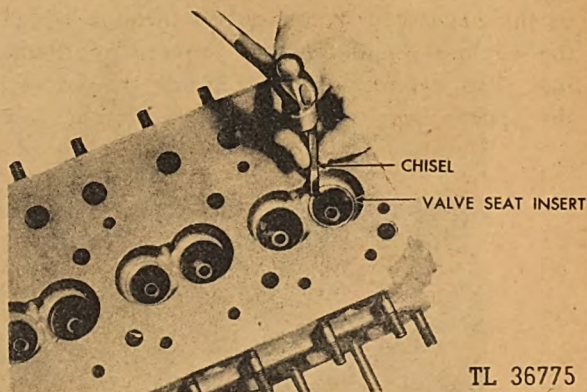

Fig. 123. Removing Exhaust Valve Seat Insert
f. *Replacing the Exhaust Valve Inserts.* The exhaust valve seat insert is held in place by a shrink fit. To remove the insert, center punch the insert and drill. Be careful not to drill through into the valve seat insert recess. With a small cold chisel, carefully break through the drilled holes and remove the insert. (See Figure 123.) Be careful not to mar the face of the cylinder head.